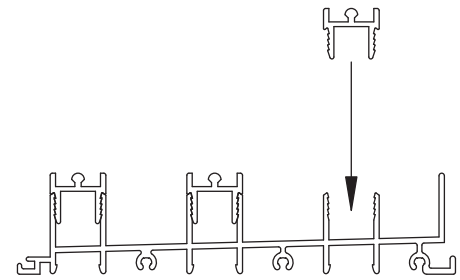

Figure 6
10. After installation screws are sealed, install the sill inserts. There is one insert for each track. (See Figure 6)